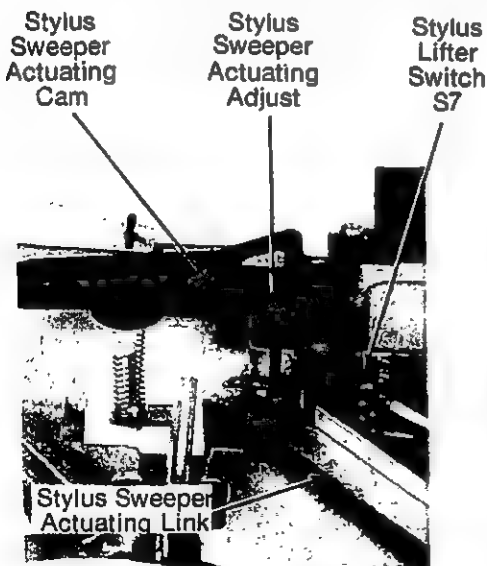

Fig. 3-10. Sweeper Actuating Cam
3. Slowly remove loaded caddy observing action of left receiver pad and sweeper actuating cam (item 12) and stylus lifter in arm assembly, Figs. 3-10 & 2-13.
4. As caddy is being removed and it just clears the slope of the highest portion of actuating Cam (item 12), sweeper switch S7 should be actuated (turned on) causing stylus lifter (in pickup arm assembly) to lower. If this does not occur position switch S7 so that it does occur.
5. Continue removing caddy slowly — as caddy just clears the idle slope of actuating Cam (item 12), the sweeper arm should trip to clean the stylus. If the sweeper arm does not trip at this point adjust screw (item 13) to make it happen.